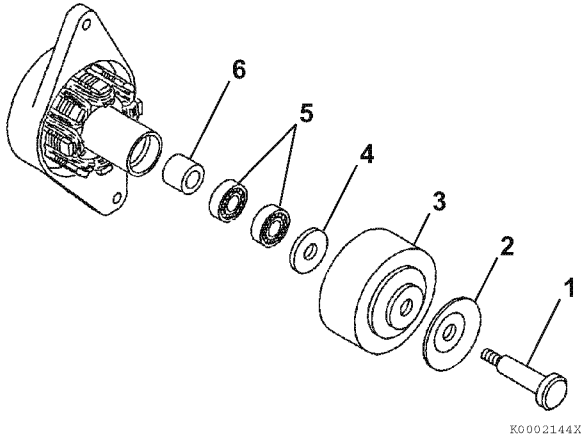

Figure 11-28
3. Reinstall the front bearings (Figure 11-28, (5)) and spacer (Figure 11-28, (6)).
4. Reinstall the flat washer (Figure 11-28, (4)), flywheel (Figure 11-28, (3)), pulley half (Figure 11-28, (2)), and through bolt (Figure 11-28, (1)).